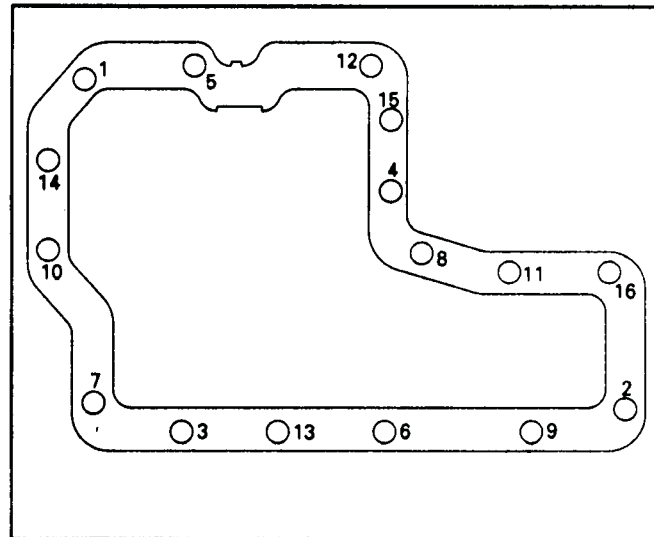

Figure 120
6. Use the torque sequence as shown in Figure 120 for bottom pan.